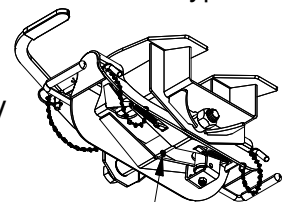

Figure J1: Underside view of coupler.
- Grease the saddle through the grease zerk approximately every six months with multi-purpose grease. This allows the coupler to pivot freely, see Figure J1.